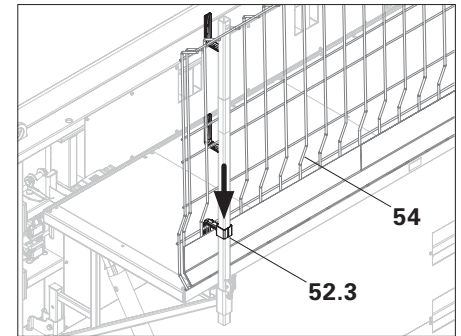

Fig. B5.02
5. Lower the adjustable L-bracket (52.3). (Fig. B5.02)